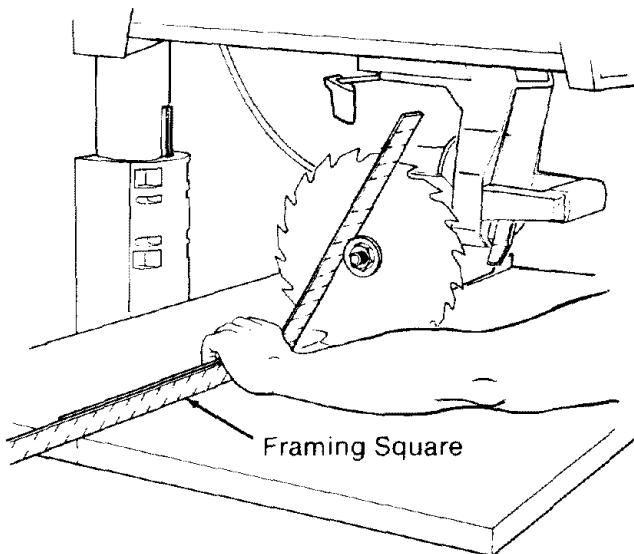

Fig. 84 - Squaring Blade to Fence
1. Put the *radial arm* in the 0° miter position with the *blade* just in front of the *fence*. (Figure 84)
3. Place the framing square with the long edge against both the *fence* and the *table*, and the short edge against the *blade* just above the *arbor shaft*. Make sure that the edge of the square is on the *blade* and not on the set of a tooth. (Figure 84)